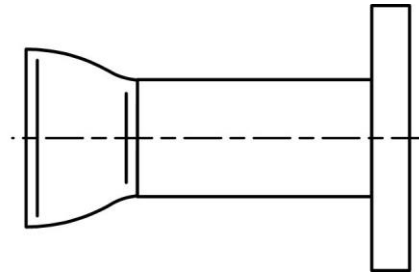

Fig.3
- b) If necessary, weld the adaptors to the opposite ends of the runs (see Fig.3).